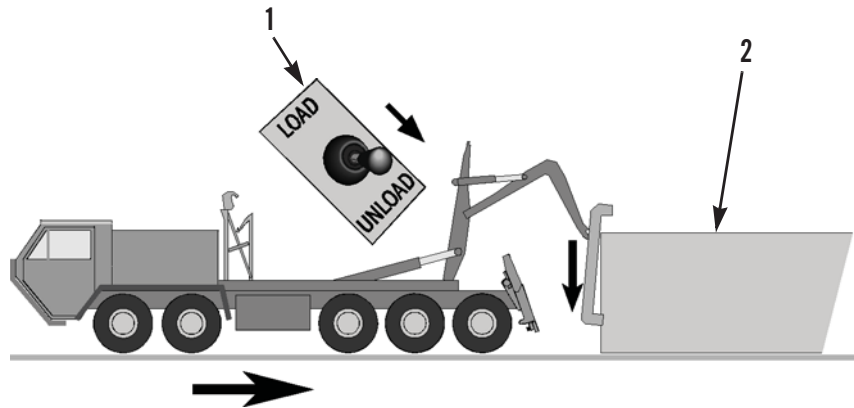

Figure 2. Upper Locating Pins Fully Lowered.
2. Keeping engine at idle speed, set joystick (Figure 2, Item 1) to UNLOAD (PLS: TM 9-2320-364-14&P, HEMTT: TM 9-2320-326-14&P) and move vehicle as required to ensure upper locating pins fully descend into upper apertures in upper-corner castings of container (Figure 2, Item 2). Top plates of upper guides should be in contact with corner castings.